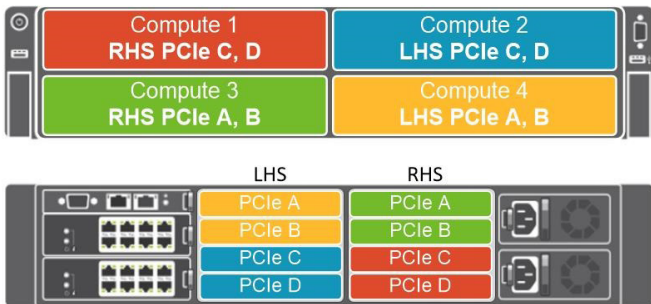

Figure 1: Four blade configuration example
In Figure 1 the two cards in position A,B at the top of the Quad-Expansion module connect with a blade in the bottom Compute position. The remaining two (C & D) connect to the blade in the top Compute position. So Compute 1 connects through to C & D, Compute 3 to A & B on the RHS (at the rear).
- To select the configuration in Figure 1, make sure the checkbox for Enable PCIe Slot Reassignment is deselected.